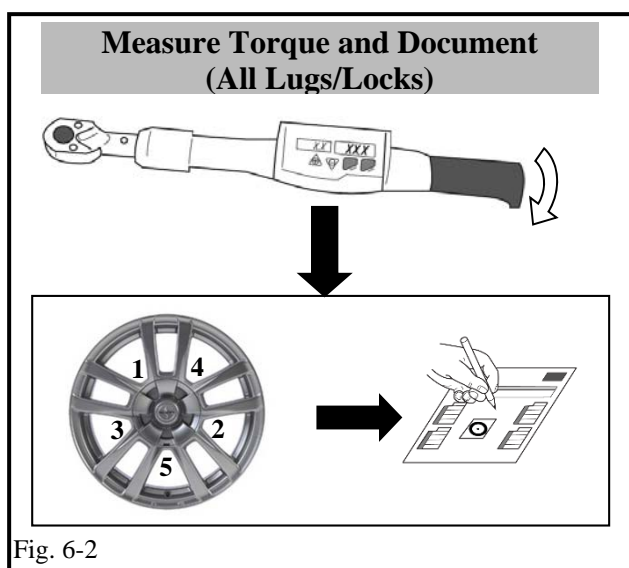

Fig. 6-2
- (e) With the vehicle still on the lift, use a digital torque wrench to measure the torque of each lug nut/lock and record it on the Torque Audit Sheet (Fig. 6-2) (PPO installation only, does not apply to DIO installation).